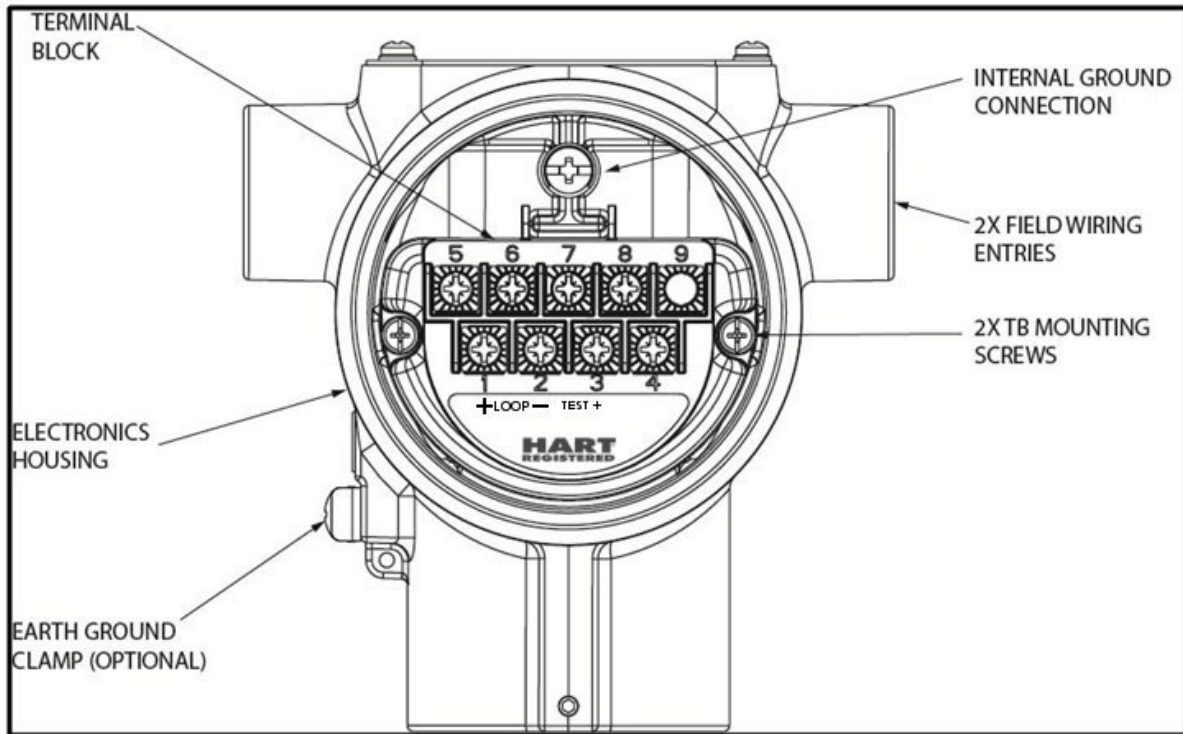

Figure 9 – Transmitter 9-Screw Terminal Board and Grounding Screw
As shown in Figure 9, each Transmitter has an internal terminal to connect it to earth ground. Optionally, a ground terminal can be added to the outside of the Electronics Housing. Grounding the Transmitter for proper operation is required, as doing so tends to minimize the possible effects of noise on the output signal and affords protection against lightning and static discharge. An optional lightning terminal block can be installed in place of the non-lightning terminal block for Transmitters that will be installed in areas that are highly susceptible to lightning strikes. As noted above, the Loop Power wiring shield should only be connected to earth ground at the power supply end.
1. See Figure 9, above, for parts locations. Loosen the end cap lock using a 1.5 mm Allen wrench.
5. Feed sensor input wires through the second housing conduit entry and connect wires per Figure 9.
Connect a wire from the Earth Ground Clamp or to the Internal Ground Connection (see Figure 9) to Earth Ground to make the protection effective. Use a size 8 AWG or (8.37mm²) bare or green covered wire for this connection.
For ungrounded Thermocouple, mV, RTD or ohm inputs connect the input wiring shield(s) to the Internal Ground Connection shown in Figure 9.
For grounded Thermocouple inputs, connect the Internal Ground Connection shown in Figure 9 to the same earth ground as used by the thermocouple.